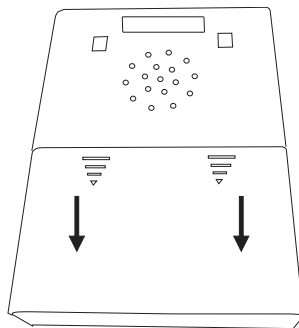

Figure 1: Battery compartment of the »signolux« receiver
- At the rear side there is a battery compartment the cover of which can carefully be pushed downwards so that the compartment opens (fig. 1).